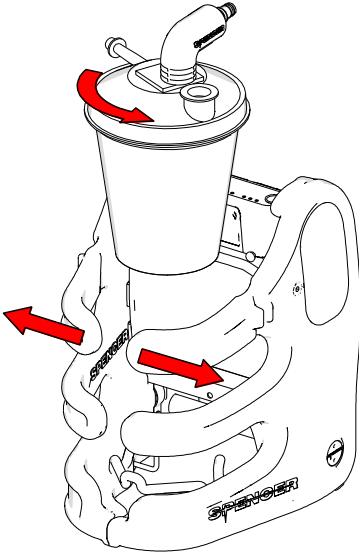

Fig. 6
1. Connect to the canister the filter group (n°5 in paragraph 3.2), put the canister in his support deforming slightly the body at the top (fig. 6); verify that the backing support canister (n°7 in paragraph 3.2) is lowered and properly fastened to the body of the suction unit.